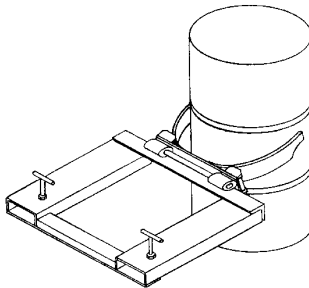

Figure 2
6. Move unit forward onto drum, lowering jaws slowly as you move. Jaws will open and close around drum. (Figure 2)